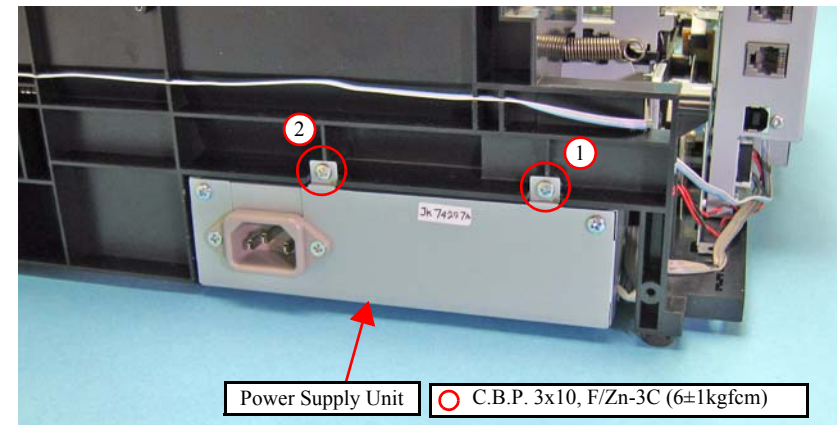

Figure 4-39. Removing the Power Supply Unit (2)
- Tighten the screws in the order given in Figure 4-39.